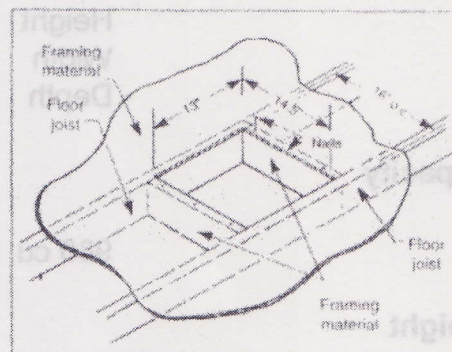

Figure 2. Floor Installation
STEP 2: Layout and cut a hole 14.5" wide by 13" high between joists (Figure 2) into sub-floor.